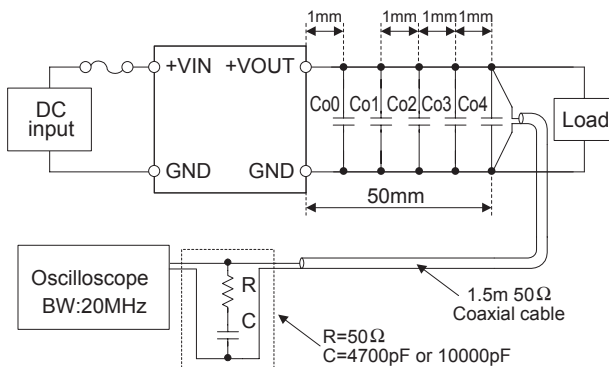

Fig.3.4 Measuring method of Ripple and Ripple Noise
■ Ripple and Ripple Noise are measured, as shown in the Fig.3.4. C_o0 , C_o1 , C_o2 and C_o3 is shown in Table 3.4.